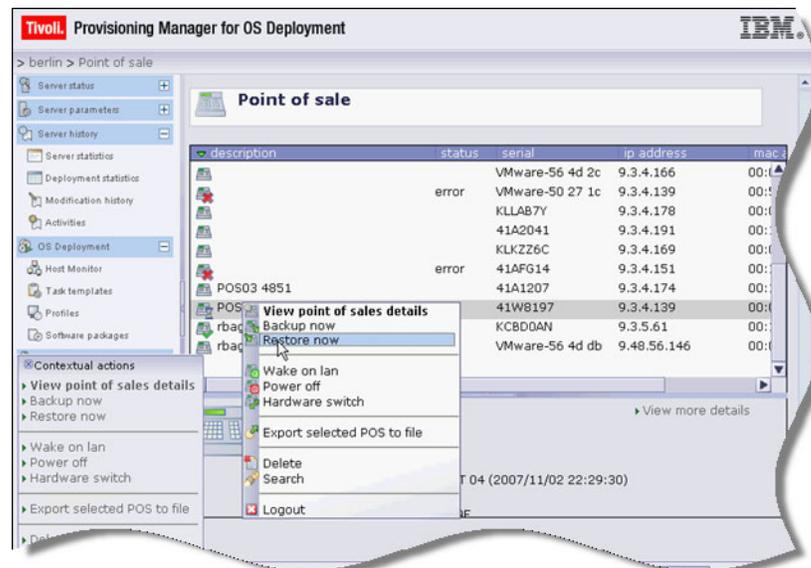

Figure 5-19 Selecting restore now from the context menu
- Right-click on the entry for the terminal you want to restore and from the context menu and select **Restore** (Figure 5-19).